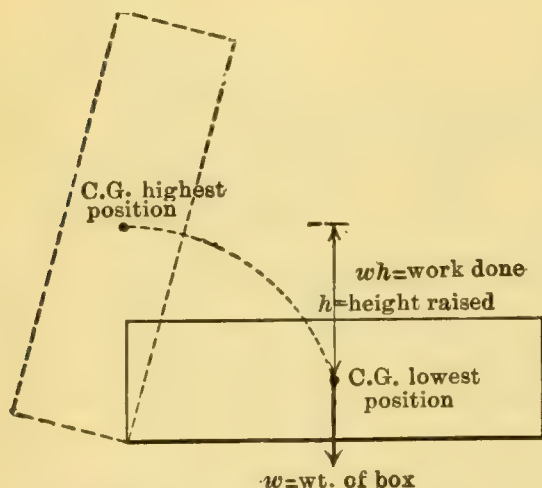

FIGURE 541. — The stability of a box is greatest when the most work has to be done to tip it to a new position.
The stability of an object is measured by the amount of work required to make it take a new position. In Figure 541, w indicates the weight of the box, and h the height to which the center of gravity must be raised before the weight of the box will make it take a new position. Then wh is the work done in tipping the box up on end. In the other figure (542)